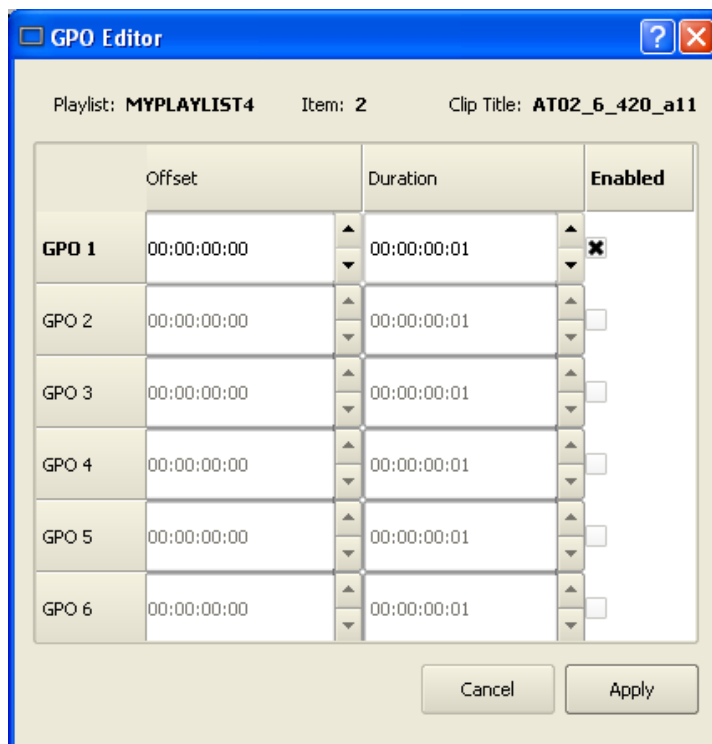

Figure 29 - GPO Editor
- C. Place the cursor over a Clip in a Playlist. Right click on the clip. Select **EDIT GPO**. The GPO Editor ( Figure 29 ) appears.